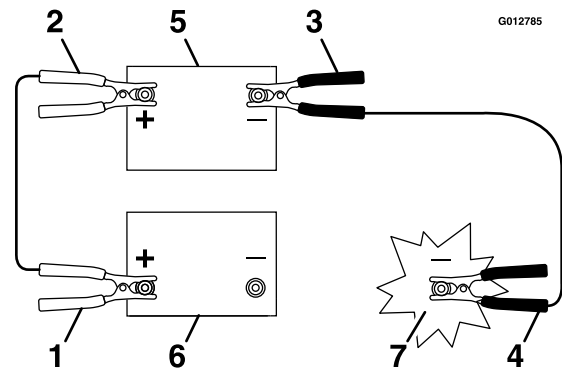

Figure 29
3. Connect the positive (+) cable to the positive (+) terminal of the discharged battery that is wired to the starter or solenoid as shown in Figure 29.